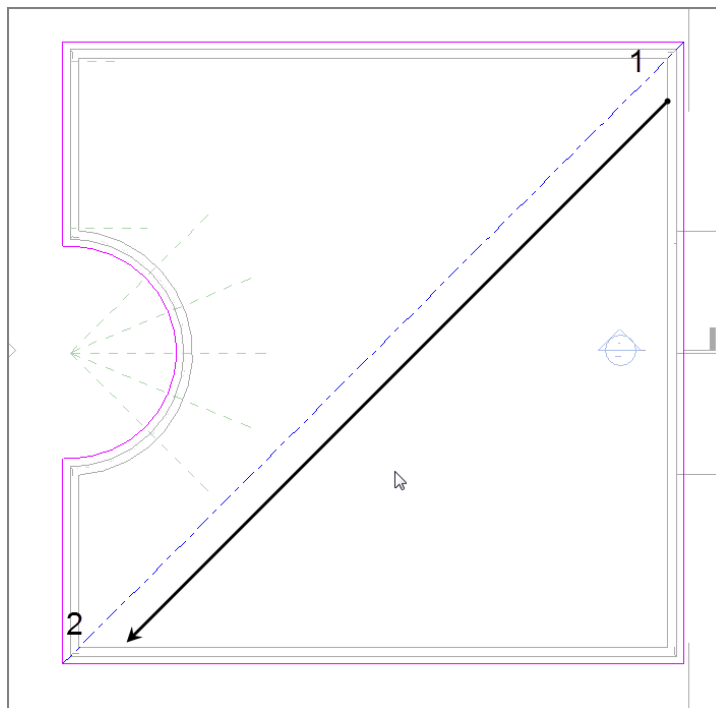

FIGURE 7.41: Adding the slope arrow
2. Pick the corner at the upper right and then the corner at the lower left, as shown in Figure 7.41.